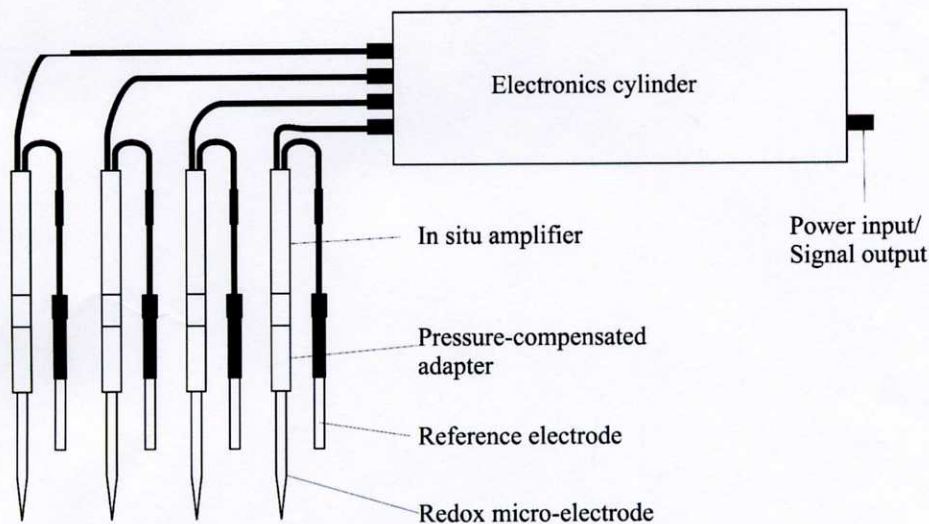

Figure 1. Schematic overview of the Deep-sea Redox Micro-electrode system DSRX-DS4.
The Deep-sea redox micro-electrode system DSRX-DS4 consists of the following elements (see Figure 1):
- c) Mount the micro-electrodes on the in situ amplifiers, and in situ reference electrodes on the small cable that comes out of the amplifier (see Figure 1).